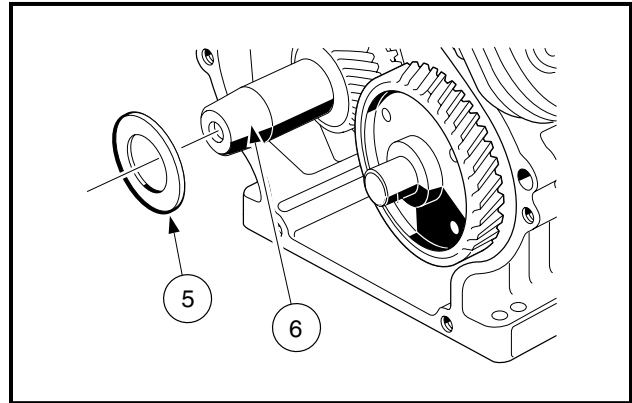

Figure 3-92 Install Shim On Crankshaft
4. Place the piston/connecting rod into the cylinder bore with the lettering MADE IN JAPAN on the connecting rod oriented toward the flywheel side of the engine. Position piston ring gaps so that they are oriented toward the corresponding letters (**Figure 3-92, Page 3-42**): (A) Top Ring Gap, (B) Second Ring Gap, (C) Upper Side Rail Gap, (D) Lower Side Rail Gap.
5. Install the shim (5) on the crankshaft (6) (**Figure 3-92, Page 3-42**).